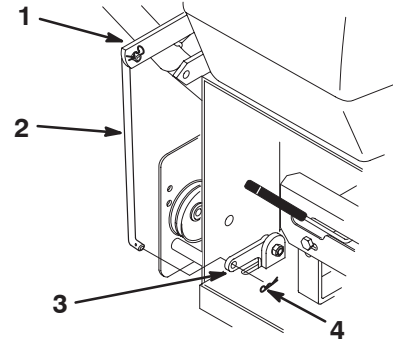

Figure 10
1. Rotate the blade control (PTO) lever vertically away from the left handle so that the blade control (PTO) rod drops down (Fig. 10).
2. Remove the hairpin cotter from the bottom end of the blade control (PTO) rod (Fig. 10).
3. Secure the blade control (PTO) rod through the hole in the bell crank with the hairpin cotteners (Fig. 10).